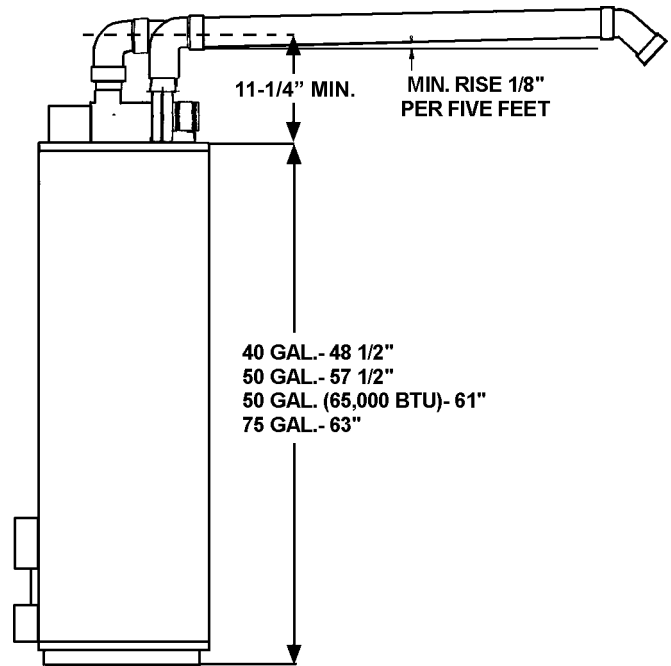

FIGURE 25.
**Note:** When determining the location of the openings in the outside wall, allow for the 1/8" (3.2 mm) rise per five feet (1.5 m) of length required in the horizontal run. See Figure 25.